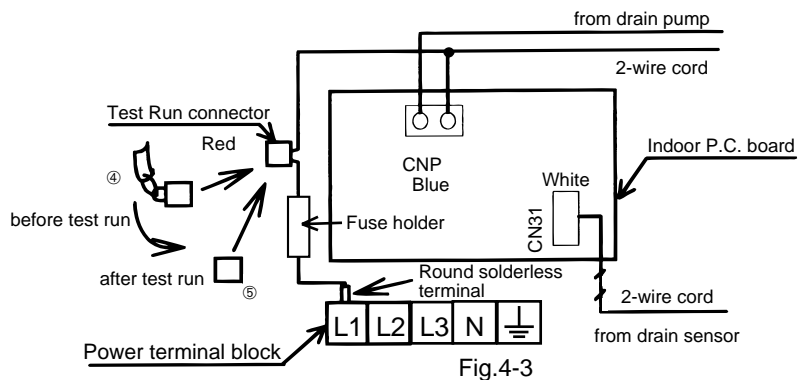

Fig.4-3
2. Connecting the pump wires to the control box of the indoor unit (Fig. 4-3)
- Connect the blue connector of the 2-wire cord to CNP on the indoor P.C. board inside the control box, and fix the fuse holder to the specified position (Photo 4-4) inside the control box using two PTT screws ⑧. The round solderless terminal must be connected to [L1] of the power terminal block.